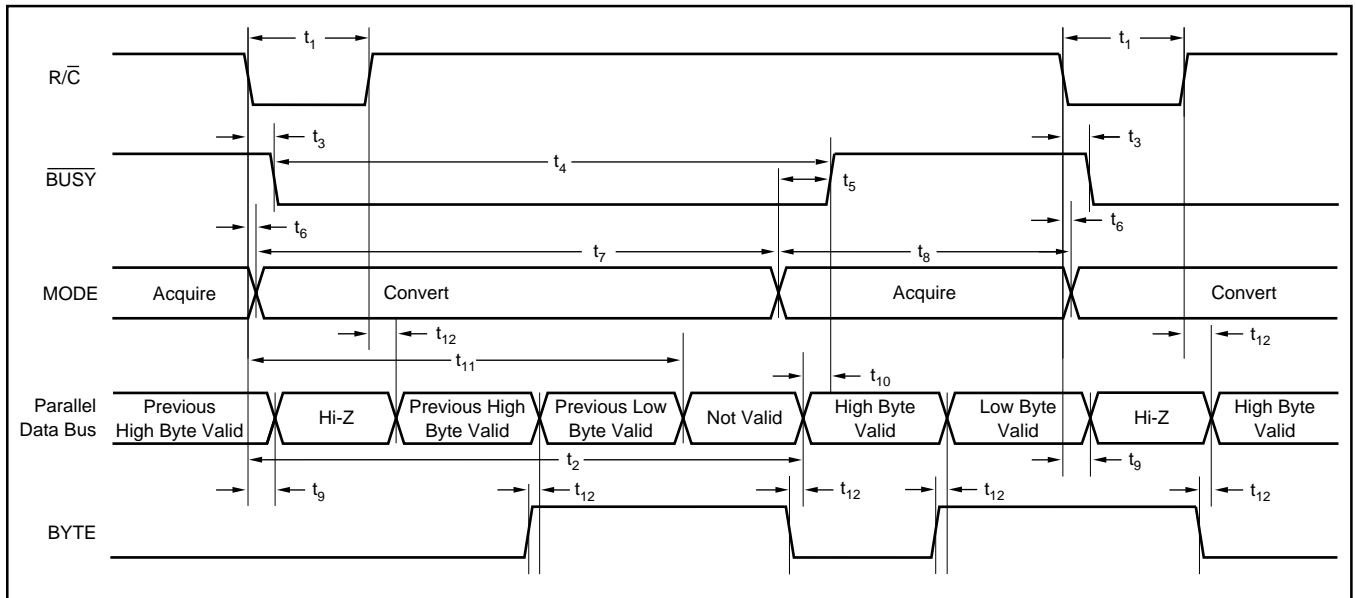

FIGURE 2. Conversion Timing with Parallel Output (CS and DATACLK tied LOW, EXT/INT tied HIGH).
The ADS7807 will begin tracking the input signal at the end of the conversion. Allowing 25µs between convert commands assures accurate acquisition of a new signal. Refer to Tables II and III for a summary of  $\overline{CS}$ ,  $R/\overline{C}$ , and  $\overline{BUSY}$  states, and Figures 2 through 6 for timing diagrams.
NOTE: (1) See Figures 2 and 3 for constraints on data valid from conversion 'n - 1'.
After conversion 'n' is completed and the output registers have been updated, BUSY (pin 24) will go HIGH. Valid data from conversion 'n' will be available on D7-D0 (pins 9-13 and 15-17). BUSY going high can be used to latch the data. Refer to Table V and Figures 2 and 3 for timing constraints.
After conversion 'n' has been initiated, valid data from conversion 'n - 1' can be read and will be valid up to 12µs after the start of conversion 'n'. Do not attempt to read data beyond 12µs after the start of conversion 'n' until BUSY (pin 24) goes HIGH; this may result in reading invalid data. Refer to Table V and Figures 2 and 3 for timing constraints.